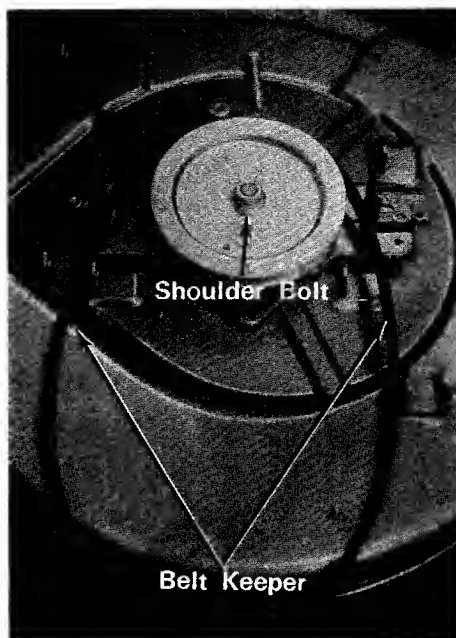

Figure 23
- 7 Remove the two belt keepers and the shoulder bolt keeping the belt on the deck pulley. (See figure 23.)